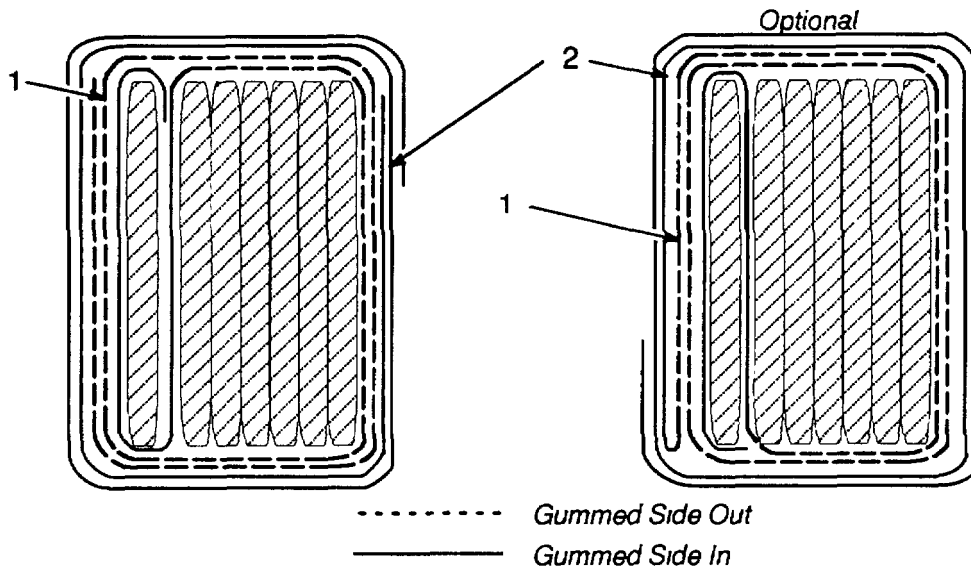

Figure 2-9. Adhesive Tape Wrapping Detail.
- b. Starting on an outer ply, wrap the first tape strip (1, Figure 2-9) around this ply with the gum side against the webbing.
- c. Wrap tape (1) around the outside of all plies for two full turns with the gummed side away from the webbing.
- e. Wrap tape (2) in the opposite direction two full turns with the gum side toward the previous wraps.
- f. Cut tape (2).